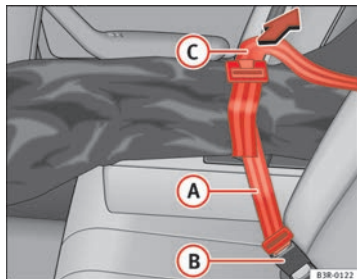

Fig. 118 Securing the ski bag on the centre seat belt buckle on the rear seat bench
- Insert the fastening belt (A) ⇒ fig. 118 of the ski bag into the centre seat belt buckle (B).
- Pull the free end of belt (C) to tighten.